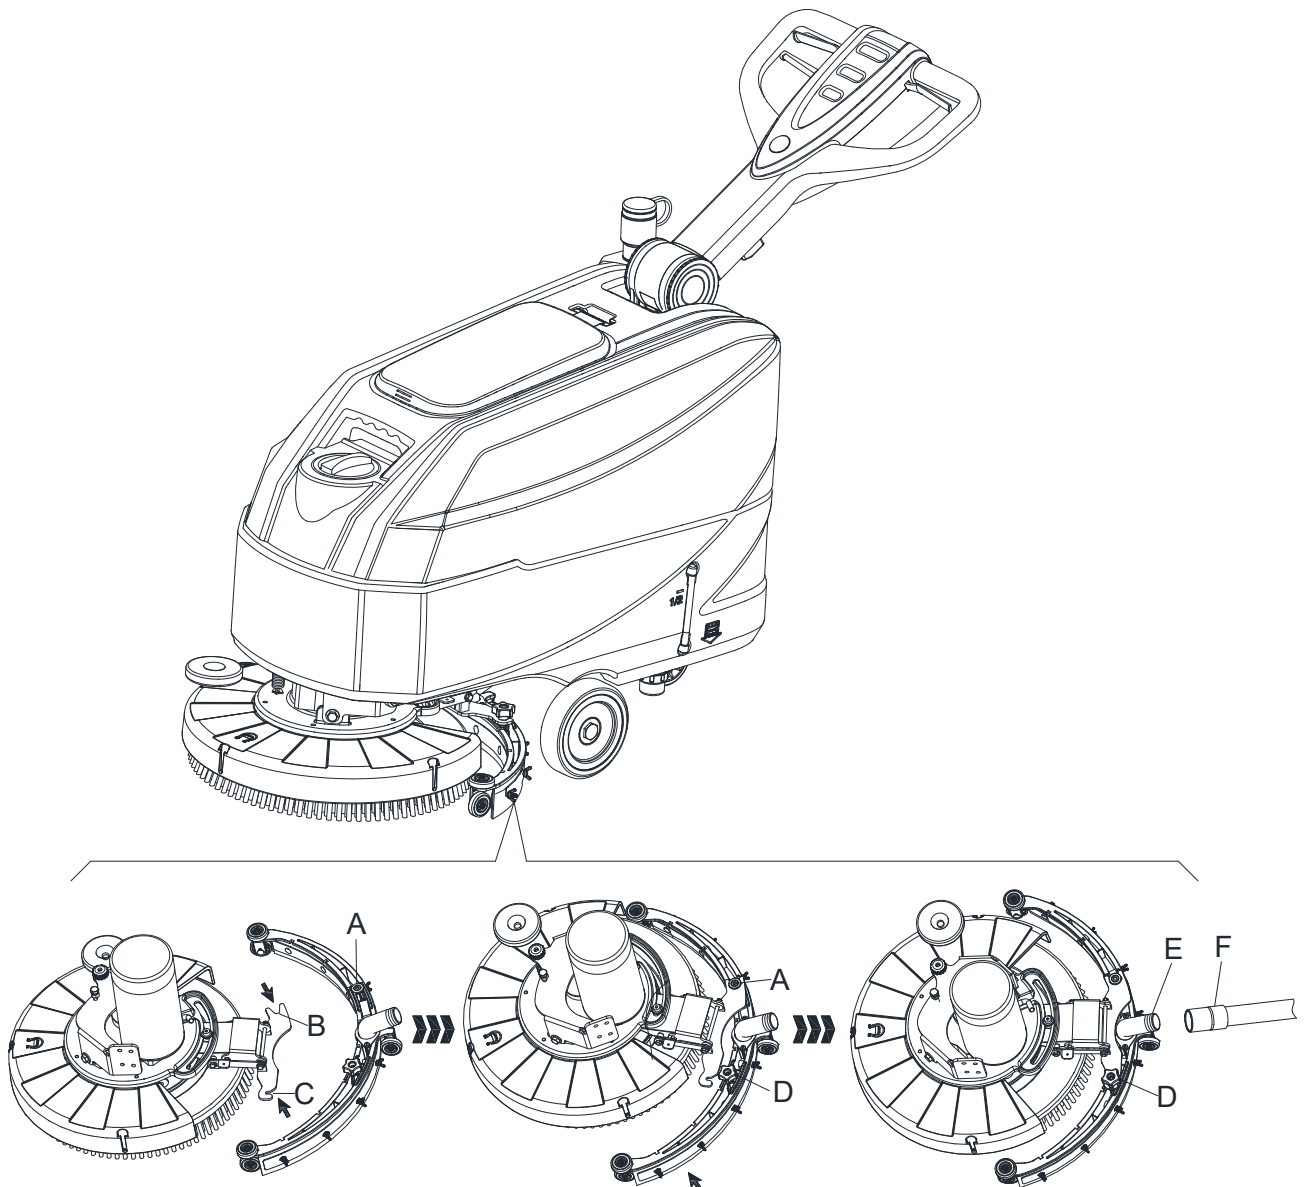

Figure 6
5. Fix stud A to the opening B, then fix another screw C to the opening D, fasten squeegee knob and connect recovery water drain hose F to the connector E (Figure 6).